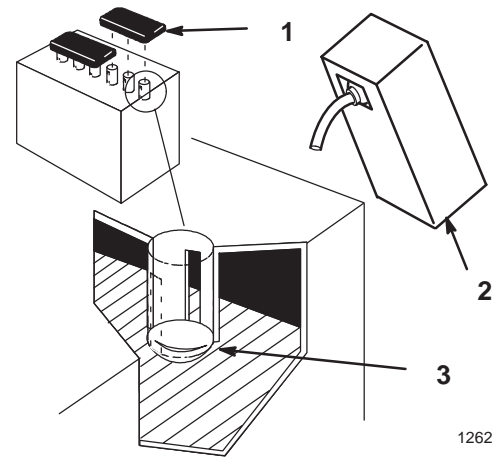

Figure 3
2. Remove the filler caps from the battery. Slowly pour electrolyte into each cell until the electrolyte level is up to the lower part of the tube (Fig. 3).
5. Slowly pour electrolyte into each cell until the level is up to the lower part of the tube (Fig. 3) and install the covers.